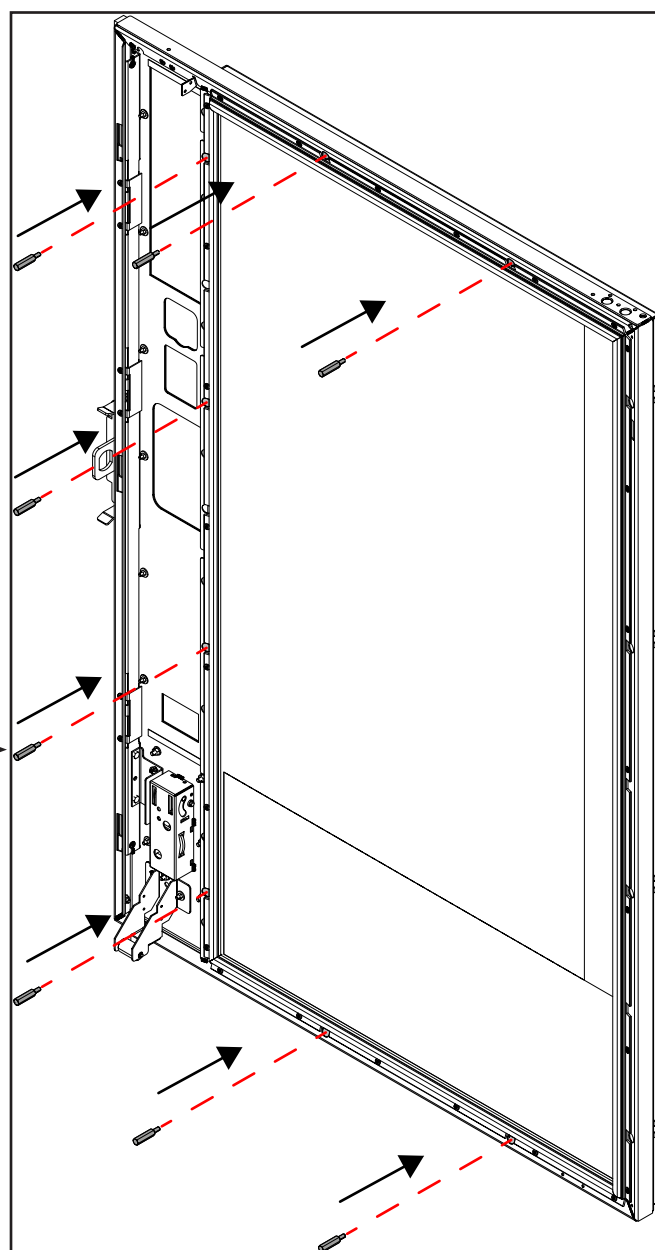

Figure 30
2. Fasten the impact protection in place using 8x hexagon head bolts (size 10) (Fig. 30).